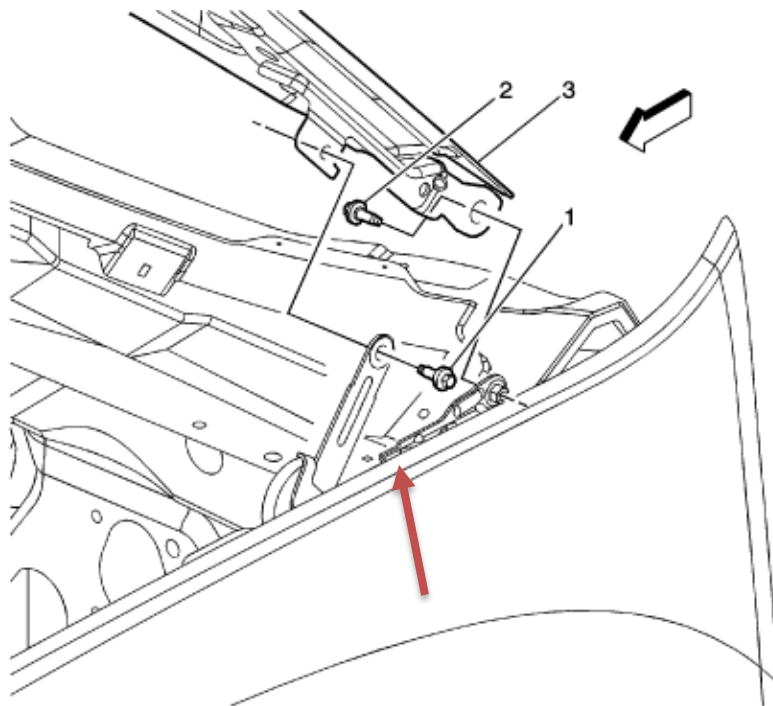

Fig 1
- e. Remove and save bolts labeled (1&2) from **Fig 1**.
- f. Remove the front bolt on fender indicated at red arrow from **Fig 1 and 2**.